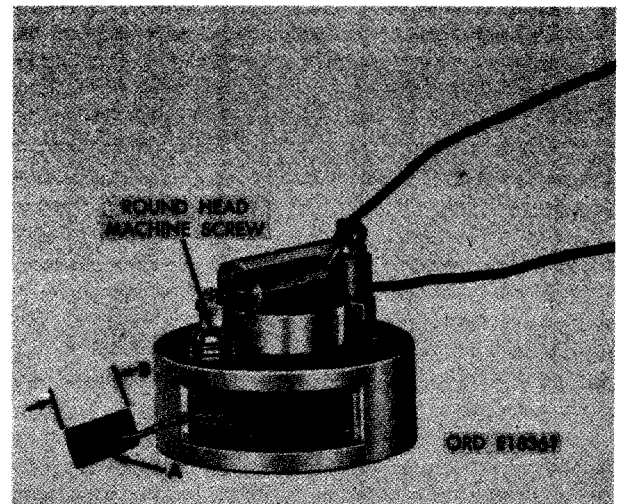
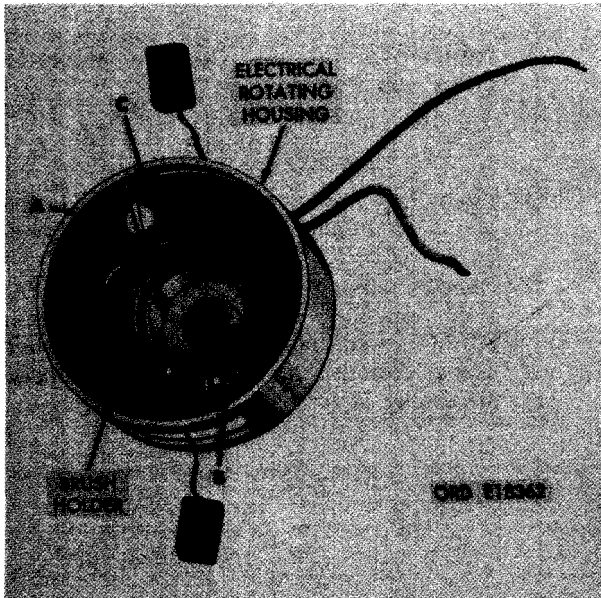

FIGURE 434. MEASURING BRUSH LENGTH.
FIGURE 435. REMOVING OR INSTALLING BRUSH HOLDER.
(1) Inspection. Inspect brushes (EE) and brush springs (FF) for cracks or breaks.
(2) Check brush length. Figure 434. (A) Pull brushes out of brush holders. (B) Measure brush length. New brushes are 3/8-inch long. Serviceable brushes should be at least 5/16-inch long.
Note. When brushes are worn to 5/16-inches less, remove and replace the two brushes and brush springs following instructions which accompany figures 435 through 437.
- (3) Remove brush holder. Figure 435. (A) Remove No. 4 x 1/2 pan-head machine screw securing brush holder to electrical rotating housing. (B) Remove No. 3 x 3/8 round-head machine screw (fig. 434) securing brush holder to electrical rotating housing. (C) Remove brush holder from electrical rotating housing.